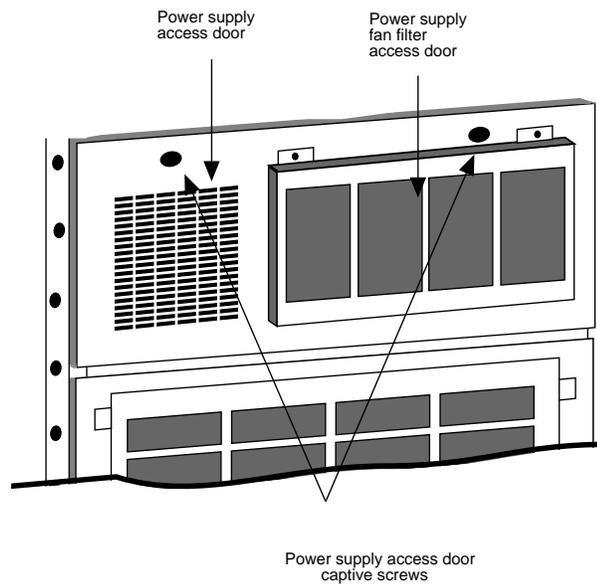

Figure 5-3. Power Supply Access Door
1. Loosen the two captive screws on the power supply access panel on the rear of the unit (Figure 5-3).